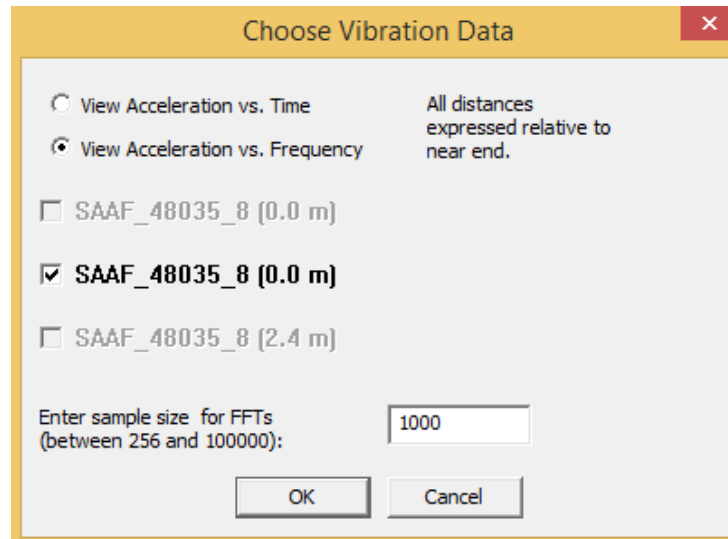

Figure 6.99: 'Choose Vibration Data' window with FFT sample size text box.
4. Select the sample size for FFTs, see **Figure 6.99**.